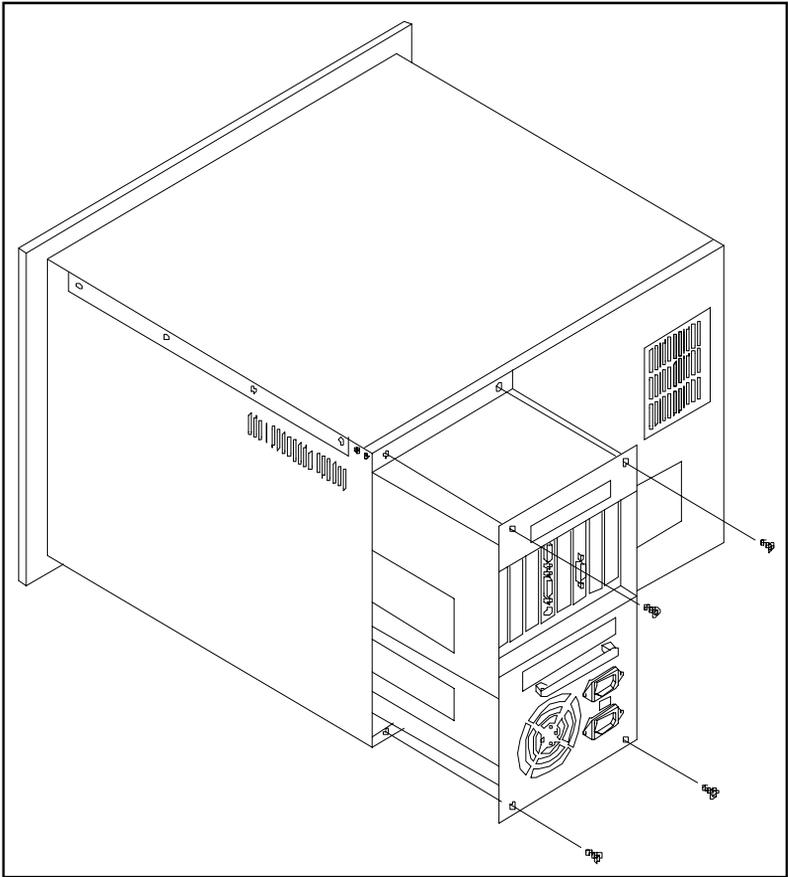

Figure 2-1: Detaching the work drawer
The AWS-825B/PB provides space for three disk drives underneath the work drawer. That is, one floppy disk drive, one hard disk drive and one slim CD-ROM drive. If you wish, you can add an extra hard disk drive and an extra slim CD-ROM drive above the power supply. (See Figs. 2-1 and 2-3.)
(See Fig. 2-1.)
2. Detach the work drawer and cover from the AWS-825B/PB unit. (See Fig. 2-1.)
(See Fig. 2-1).